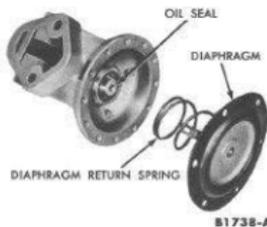

FIG. 46—Diaphragm Installation
6. Position the fuel pump diaphragm and spring assembly into the pump body as shown in Fig. 46.